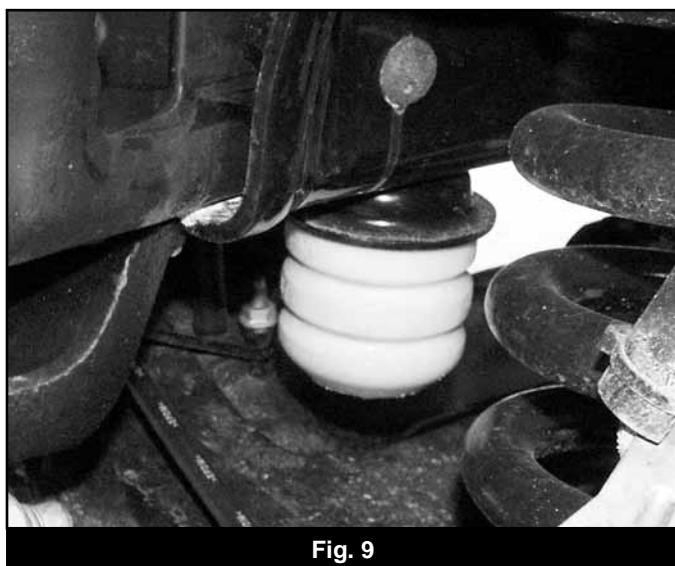

Fig. 9
23. Pull the OE front bump stops free from the bump stop cups and remove the bolt mounting the cup to the frame (Fig 9).